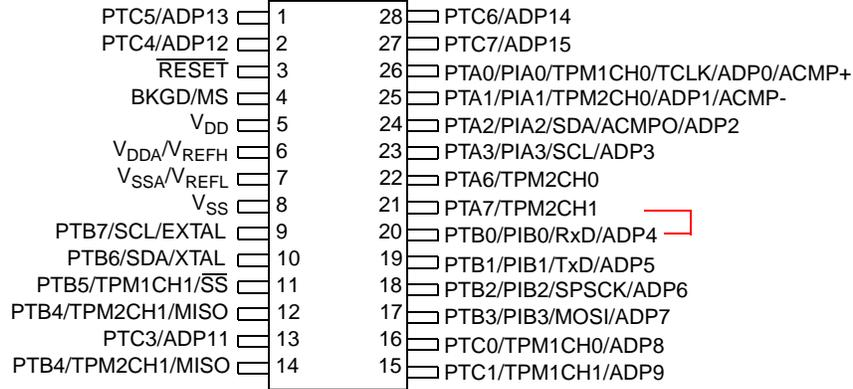

Figure 5. Use of TPM2CH1 on 28-pin Package to Measure the Synch Field Length
4. On several S08 packages, the LIN Rx pin is located next to a timer channel pin (see Figure 5). Using this timer channel eases the routing of the application.